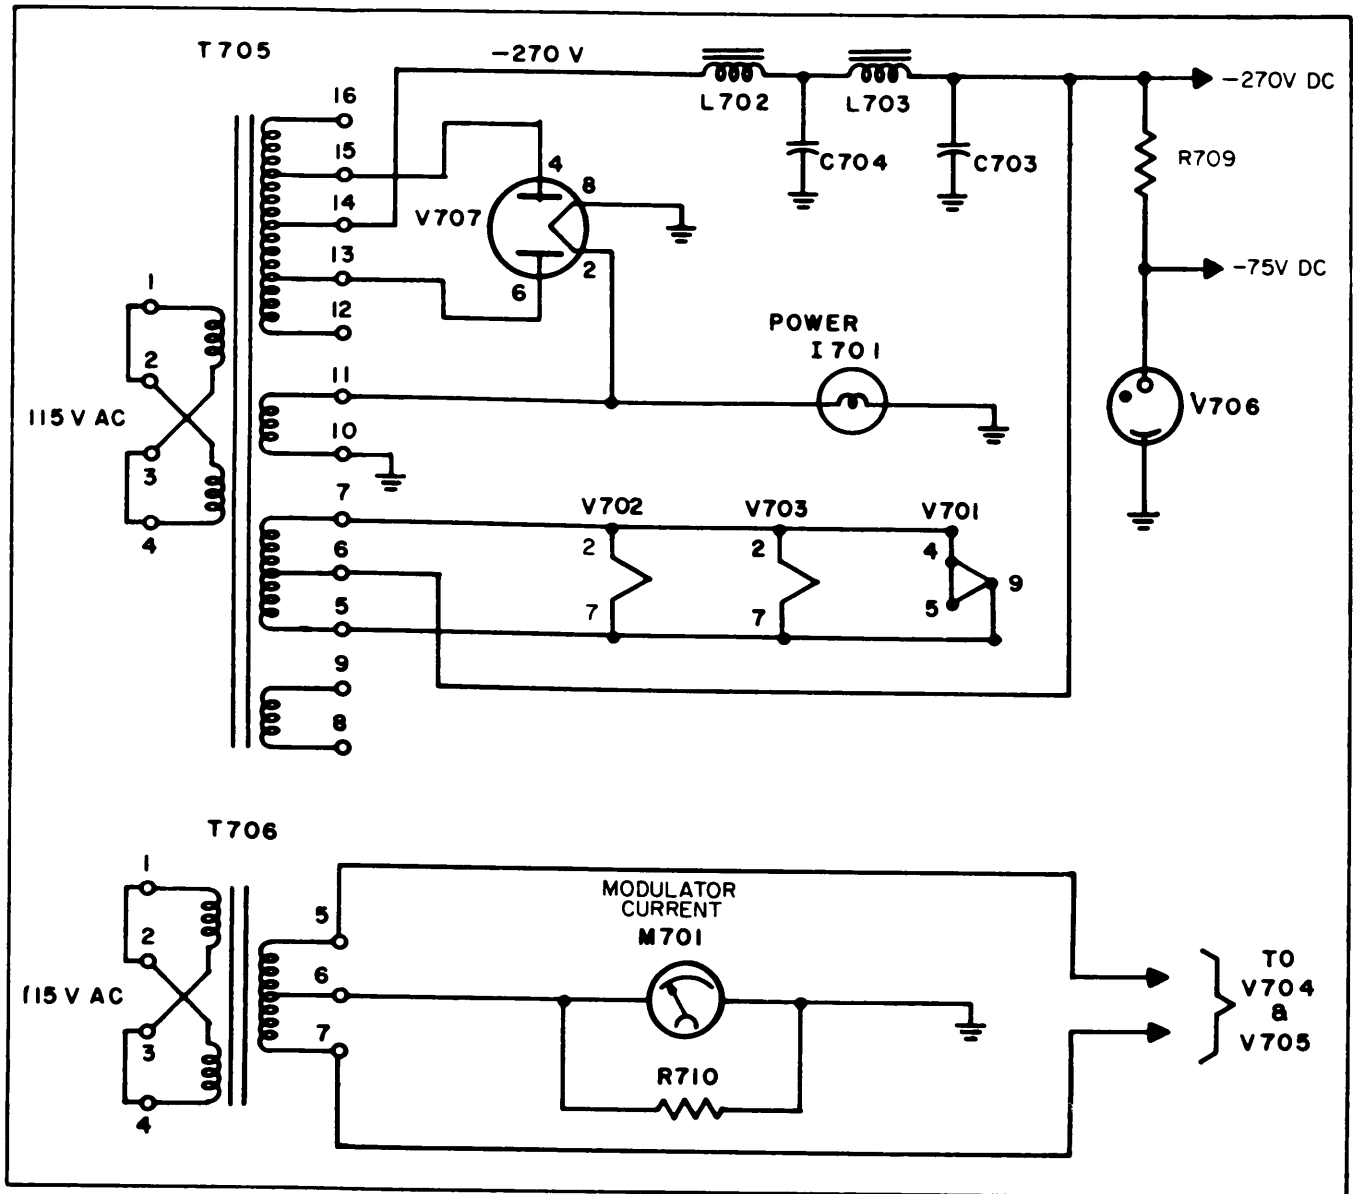

Figure 4-21. Modulator Power Supply, Simplified Schematic Diagram
(4) MODULATOR POWER SUPPLY. - The modulator power supply comprises rectifier V707 and voltage regulator V706. (See figure 4-21.) Rectifier V707 is a standard configuration utilizing an inductance input pi-type filter. A negative 270-volt dc output is obtained which is distributed to the cathodes of V701,